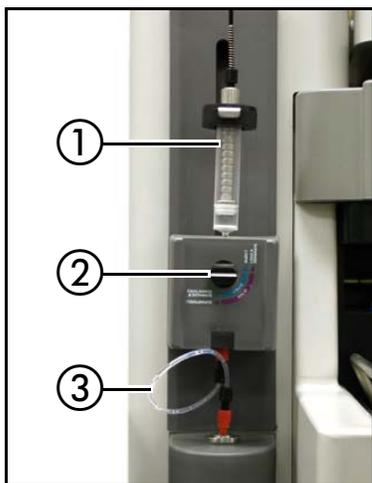

Figure 1: Prepare system for solvent changeover
1. Prepare for the solvent change (refer to Figure 1):
1. Prepare for the solvent change. (Refer to Figure 1 and instruction steps 1a through 1c in the previous section titled *Solvent Change: Normal to Reversed Phase*.)